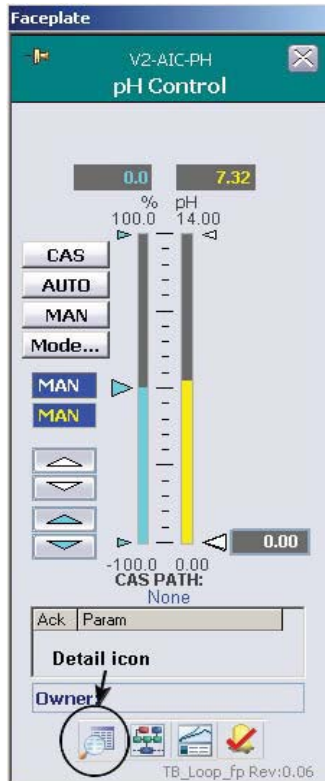

Figure 4.6. Detail icon on pH Control faceplate.
1. On the pH Control faceplate, click **Detail** to open the Detail screen (Figure 4.6).